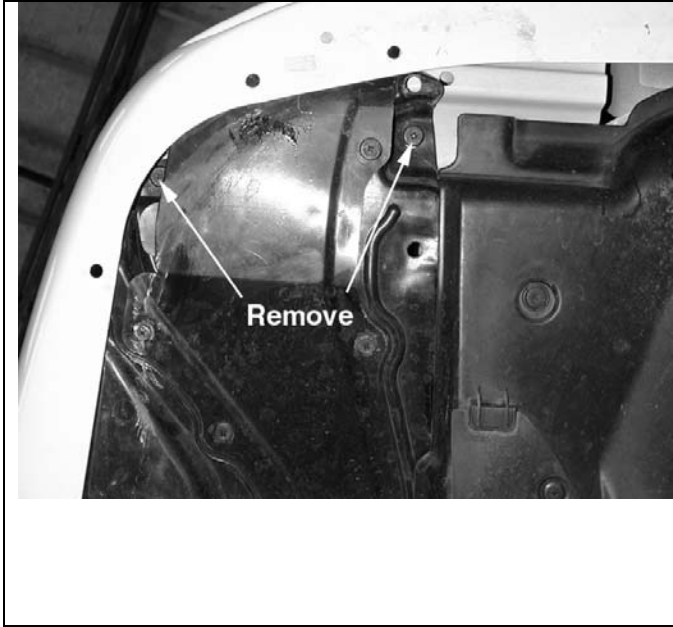

Fig. 3
- f) Remove the two plastic clips holding the wheel well liner to the underside of the vehicle's passenger side bumper. **(Fig. 3)**
- g) Re-install the wheel well liner. Refer to **Fig. 3 & 4** for proper placement of the plastic clips.